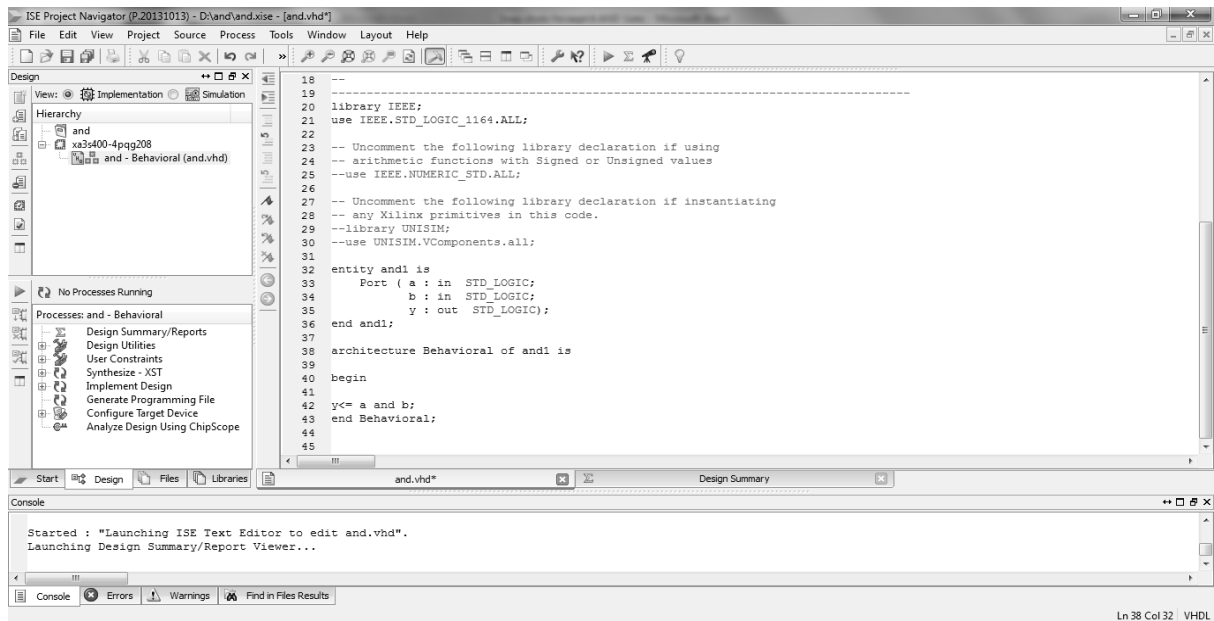

Fig 4.8: VHDL Coding
4. Develop VHDL code for given problem and Synthesize the .vhd file and view RTL schematic. (refer fig. 4.8 and 4.9)